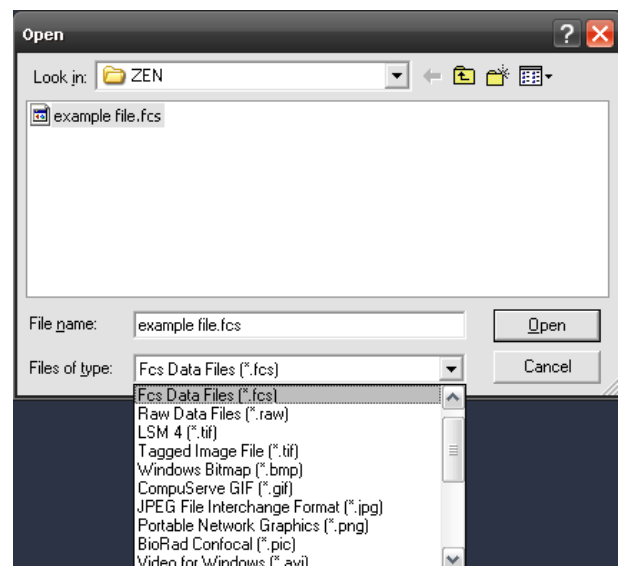

Fig. 336 Open dialog
- Go to **File** and then choose **Open**. This will open the **Open** dialog box for the selection of drives, directories and subdirectories in which data files have been stored (Fig. 336).